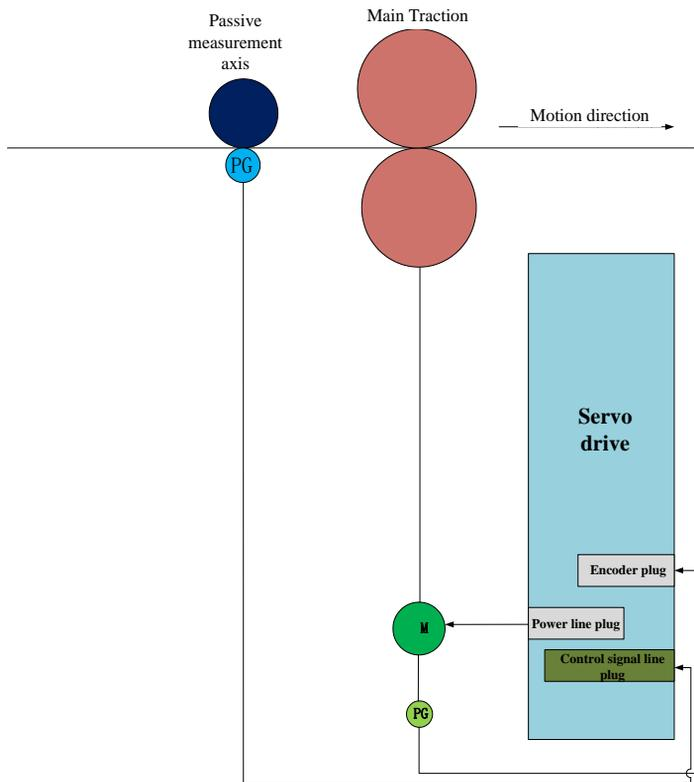
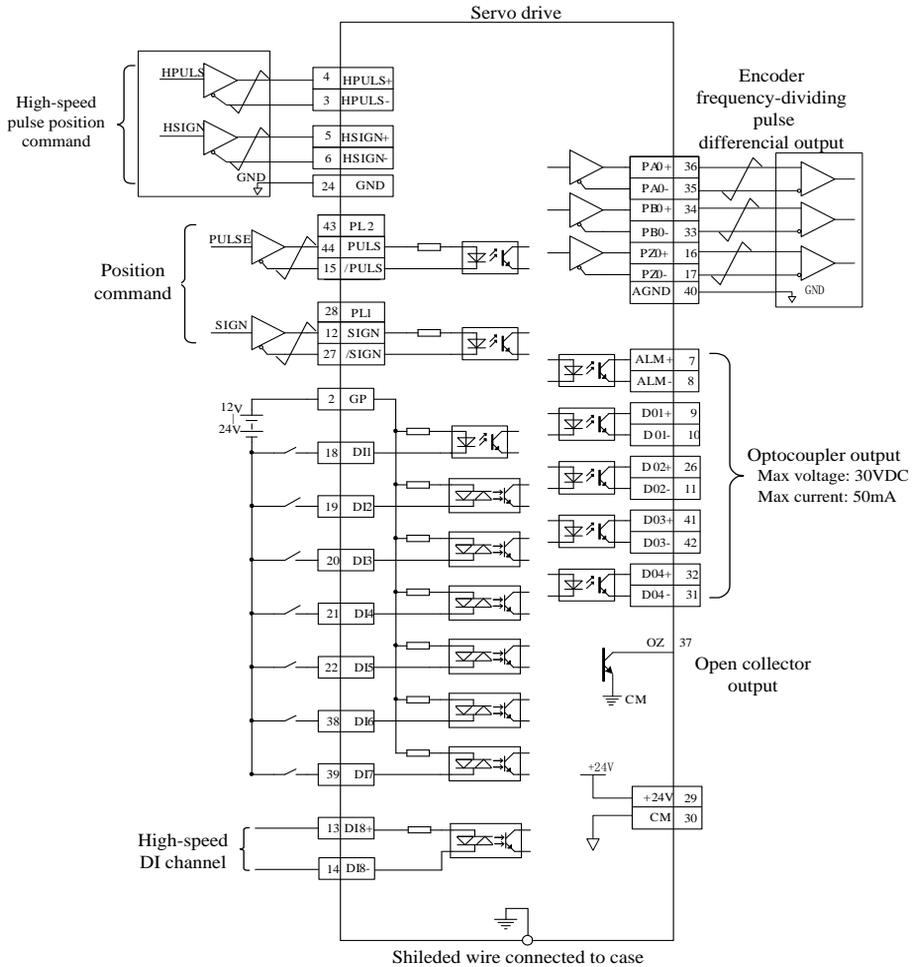

Fig 6.4.37 Full closed loop typical application sketch map
Fig 6.4.39 Full closed loop mode typical wiring diagram
- ★ Refer to the wiring instruction of Fig 6.4.37 or Fig 6.4.39, connectDI/DO;